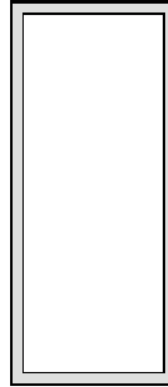

Figure 9. Solder Paste Application on Pins
4. The aperture opening for the signal pads should be between 50–80% of the QFN pad area as shown in Figure 9.